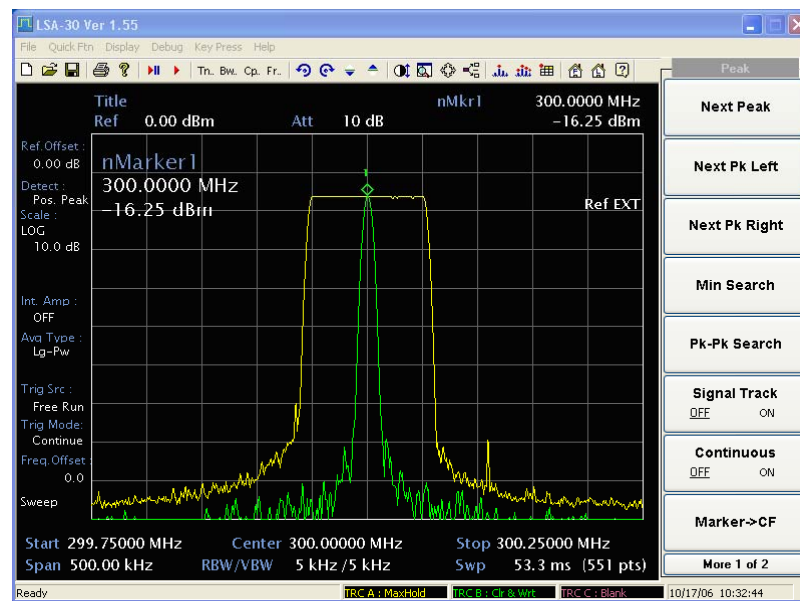

Fig. B-11 Viewing a drifting signal with max hold and clear & write
- 8 Slowly change the frequency of the signal generator  $\pm 50$  kHz. Your analyzer display should look similar to Fig. B-11.